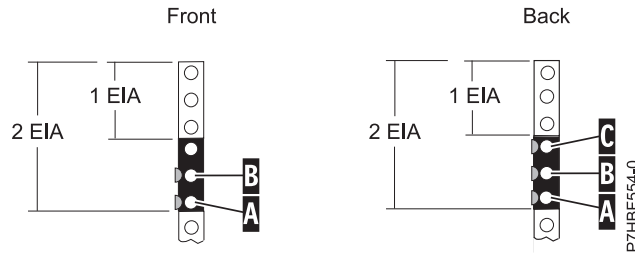

Figure 2. Marking holes on the front and back of the rack frame
3. Begin with the hole identified by the mark **(A)**; count up one hole and place a second mark **(B)**. Mark the rack so the mark can also be seen from the rear of the rack, as shown in Figure 2.
6. Begin with the hole identified by the mark **(A)**; count up one hole and place a second mark **(B)**, as shown in Figure 2.
7. Begin with the hole identified by the mark **(B)**; count up one hole and place a third mark **(C)**, as shown in Figure 2.